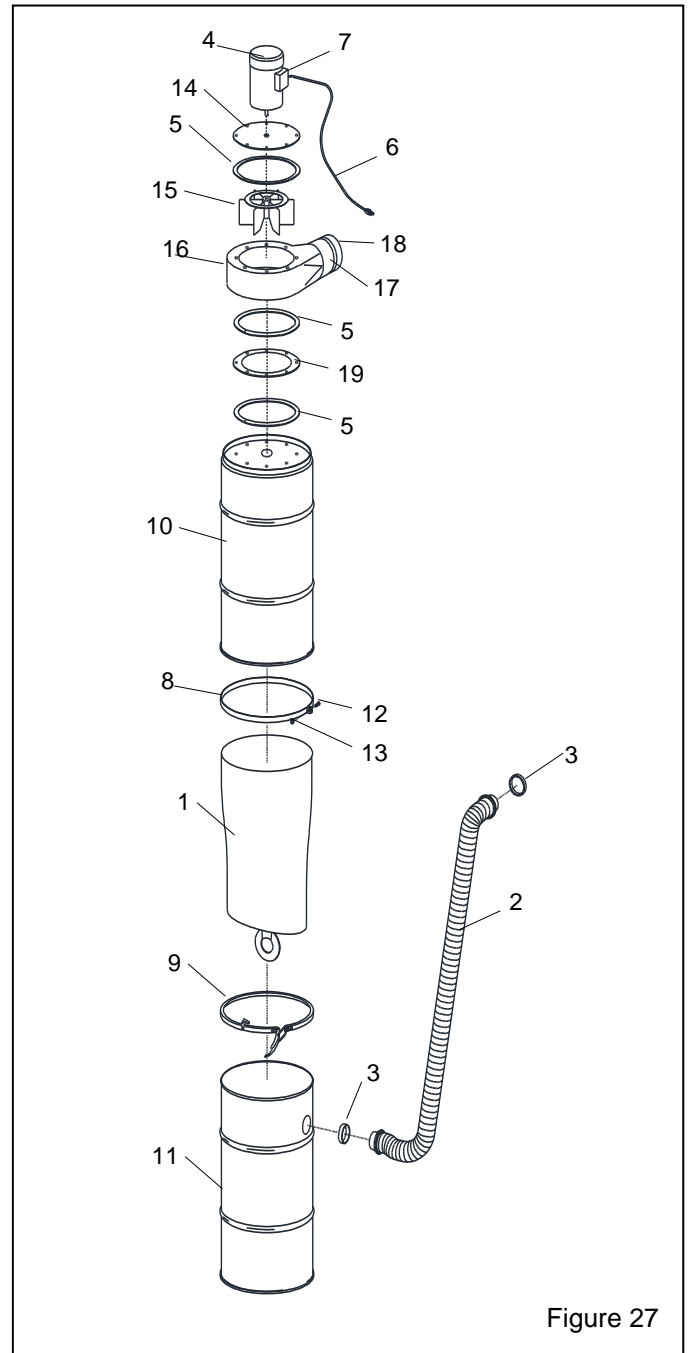

Figure 27
11.8 Dust Collector and Accessories – Figure 27